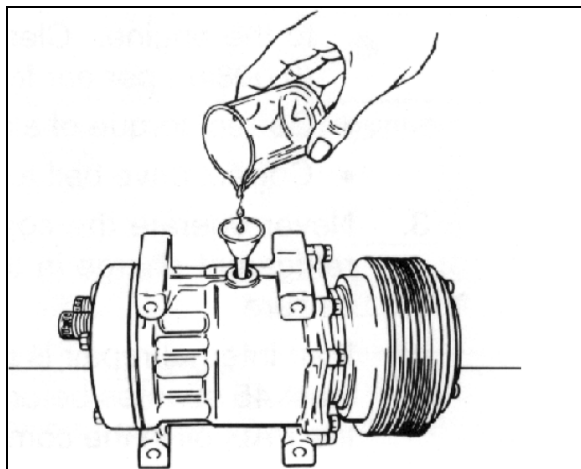

FIGURE 52
11. Add PAG oil as necessary to the container and pour back into the compressor (Figure 52) according to the following formula: